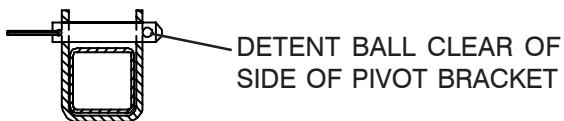

Figure 2-9. Correct Position of Locking Pin
**1- Guardrail Locking Pin With Lanyard** - To fold the guardrail system down, remove the locking pin at each pivot point and lower each guardrail. To raise the guardrail system, swing up each guardrail and lock in place with the locking pins ensuring that the detent ball of each pin is clear of the side of the pivot brackets. (Figure 2-9.)
3. If equipped with a fold-down guardrail system, swing up and lock all guardrails in place with locking pins. (Refer to Figure 2-9.)